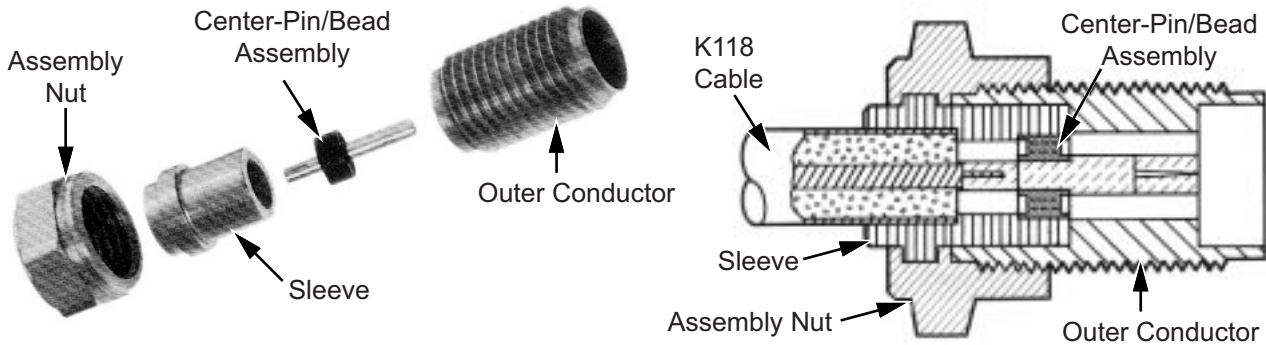

Figure 1-1. K101F-R or EK101F-R Assembly
Fabrication instructions for the cable assembly are given below. Refer to Figure 1-1 to identify the connector parts referenced in the procedure.
7. Slide the sleeve onto the cable, as shown in Figure 1-1, and place the solder ring against it.